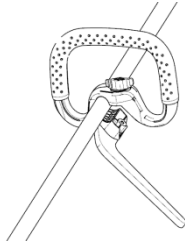

Fig.12
1. Push the loop handle onto the shaft, push the upper and lower parts together, tight the handle by rotating the loop handle knob in clockwise direction (Fig. 12&13).